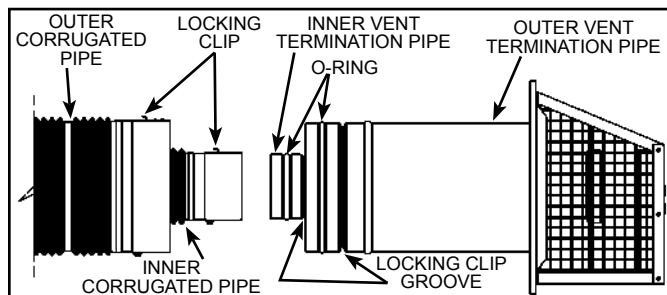
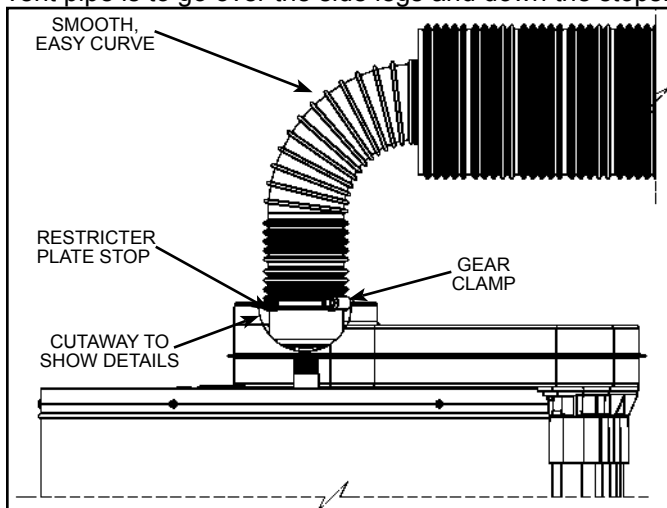
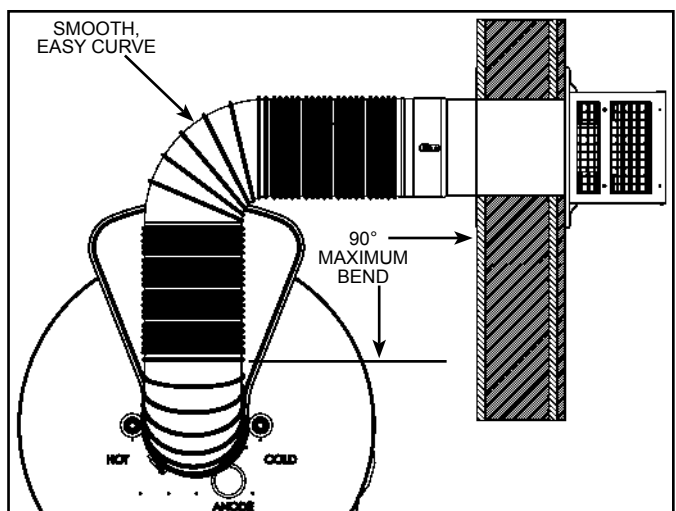
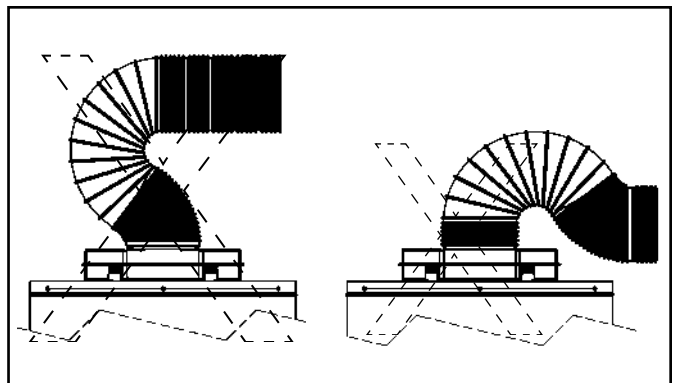

Figure 18
Figure 23
Figure 25
Figure 26
Figure 18 thru Figure 25 show how to assemble and connect the venting system.
- Do not use the restrictor plate in an offset installation (see Figure 25).
To connect the vent piping to the vent termination hood, first slide the inner (3") corrugated pipe over the inner vent termination pipe. Continue this action until the locking clip on the corrugated pipe snaps into position in the corresponding groove (see Figure 18). Secure corrugated pipe with screw (supplied) inserted through hole opposite the locking clip.
Repeat this process with the outer (6") corrugated pipe and lock it into position on the outer pipe on the vent termination (see Figure 18). Secure corrugated pipe with screw (supplied) inserted through hole opposite the locking clip.
Bend both the corrugated pipes toward the flue connection on the water heater. Pull and connect the inner corrugated pipe to the water heater's flue tube reducer with hi-temp red silicone (included) and gear clamp. Make sure this connection is tight and leak proof (see Figure 23).
**Note:** To ensure good exhaust gas flow, bend vent piping using a smooth, easy curve as shown in Figure 23 thru Figure 25. Do not use reverse or compound curves as shown in Figure 26.